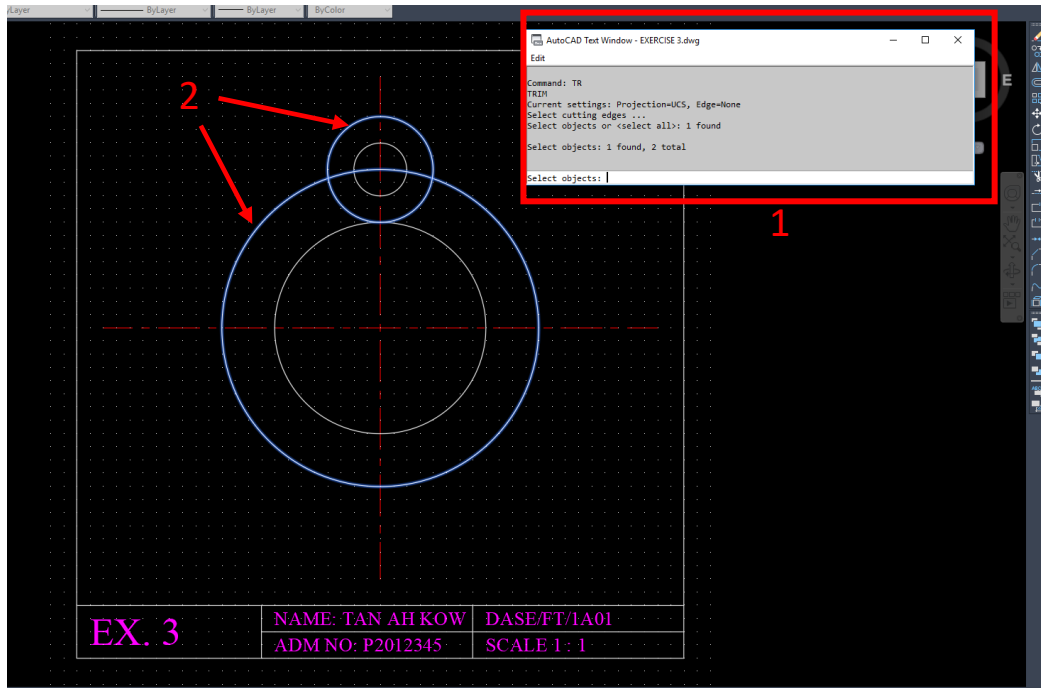

Fig 23
- xiv. See Fig 23 shows the step **(1)** & on the selected cutting edges **(2)**